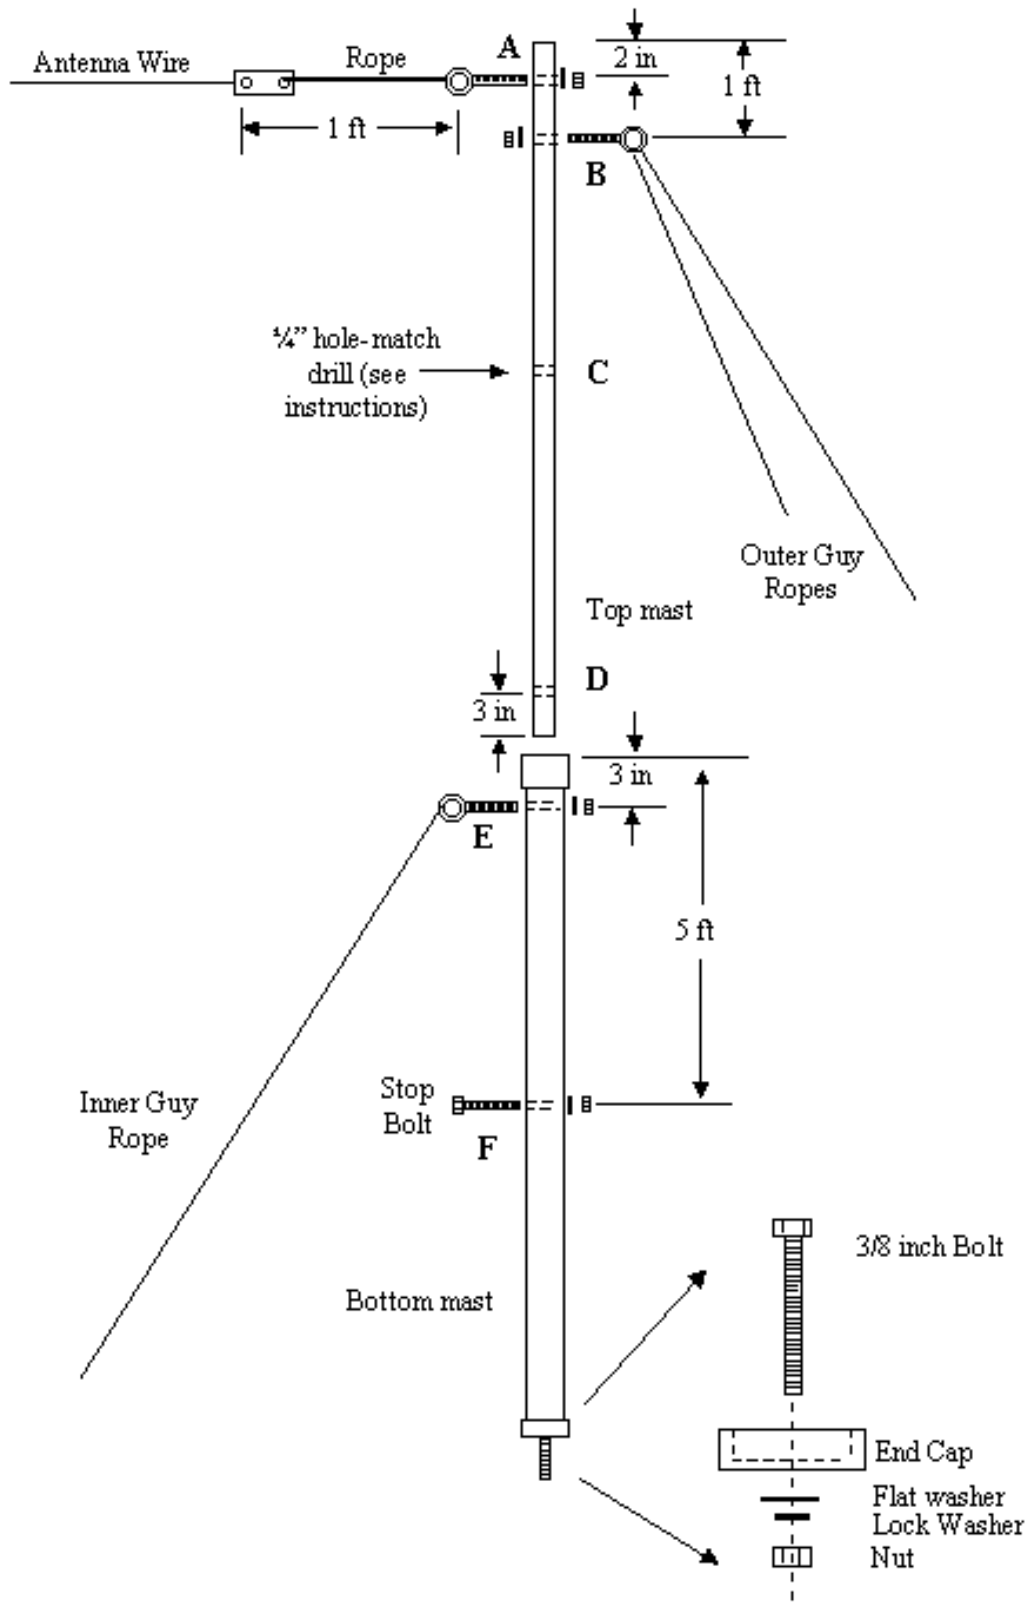

Figure 4.2. PVC Mast Assembly.
Step 1. (Refer to Figures 4.2 – 5.3)
- A. *For the PVC mast installation refer to Figures 4.2 and 4.3. Cut 8 ropes to 24-feet. Attach 2 ropes to each of the eyebolts at the 19 ft level (hole B). Cut 4 ropes to 19-feet and attach each to an eyebolt at the 9-foot 9-inch level (holes D/E).*